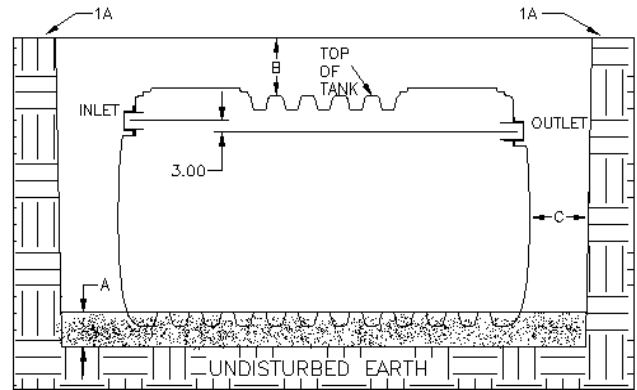

Figure 1: Excavation
1. Excavation (Figure 1)
- Excavate and provide a well-compacted support layer of sand / gravel mixture so that dim. (A) is a min. of 6" for soil terrain and 12" for rock terrain.
- Allow dim. (B) to be a min. of 8" and a max. of 36".
- Allow dim. (C) to be a min. of 18" and a max. of 24".